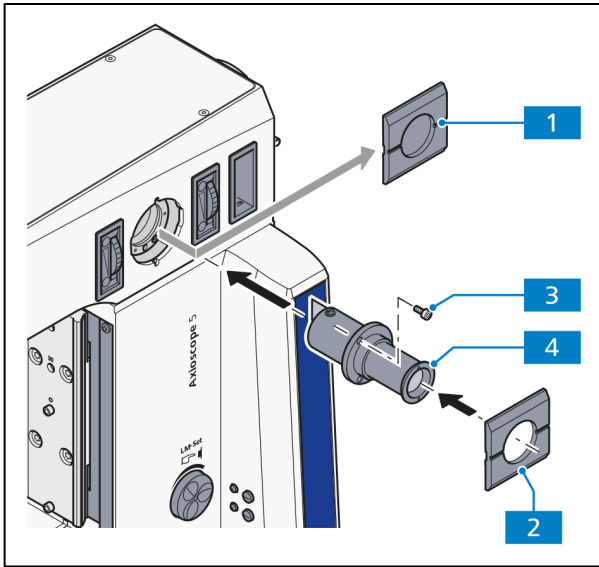

Fig. 3-32 Inserting the adjustment tool
- Remove the cover (Fig. 3-32/1) from the mounting aperture of the adjustment tool.
- Insert the adjustment tool (Fig. 3-32/4) and tighten the three included screws (Fig. 3-32/3).
- Attach the cap (Fig. 3-32/2) to the opening. Make sure it locks.